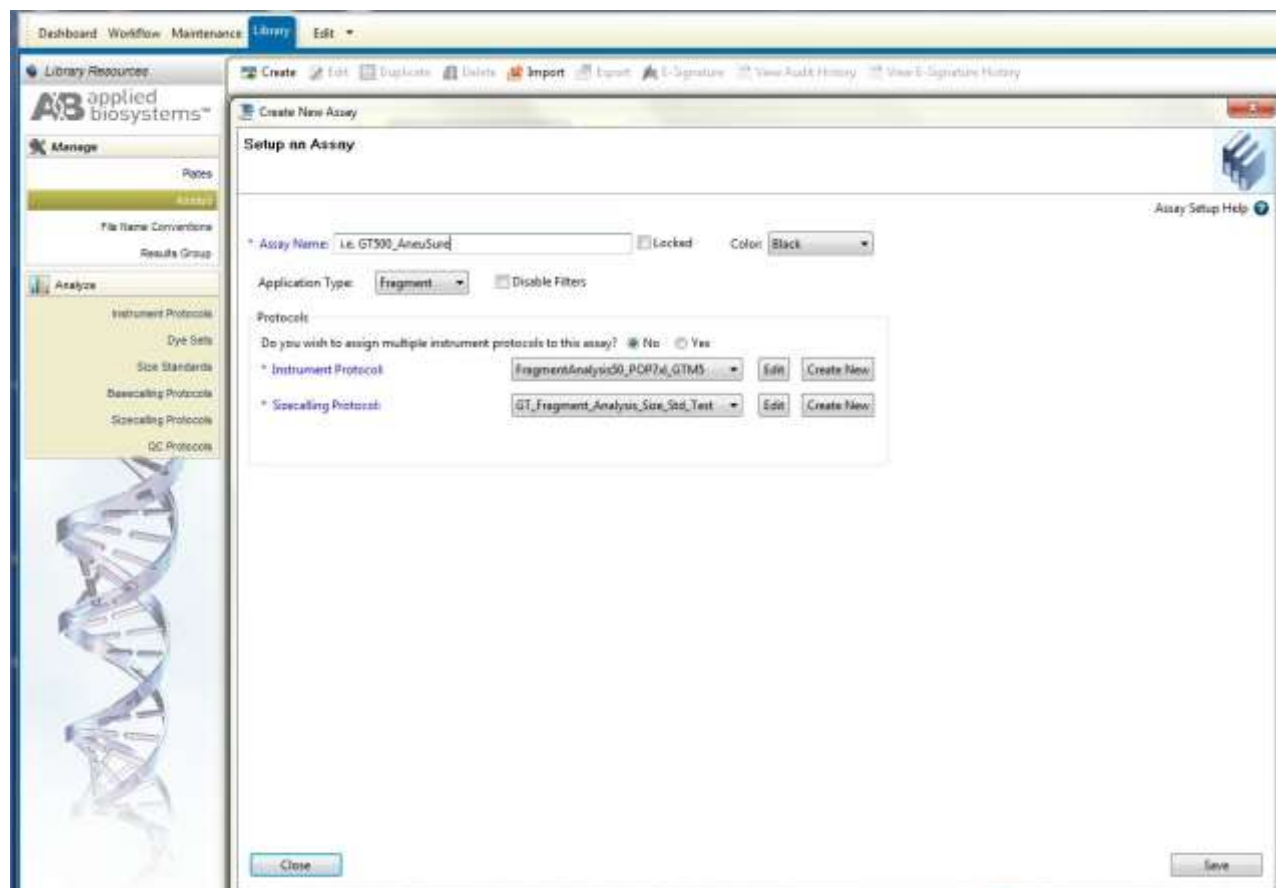

Figure 8. Screenshot for the “Create New Assay” window on Applied Biosystems 3500 Data Collection software
- c) Select “Create” (Figure 8)
- d) In the *Create New Assay window*, as shown in Figure 8, choose the Instrument Protocol created in Step 3.1.1 and the QC Protocol created in Step 3.1.3.